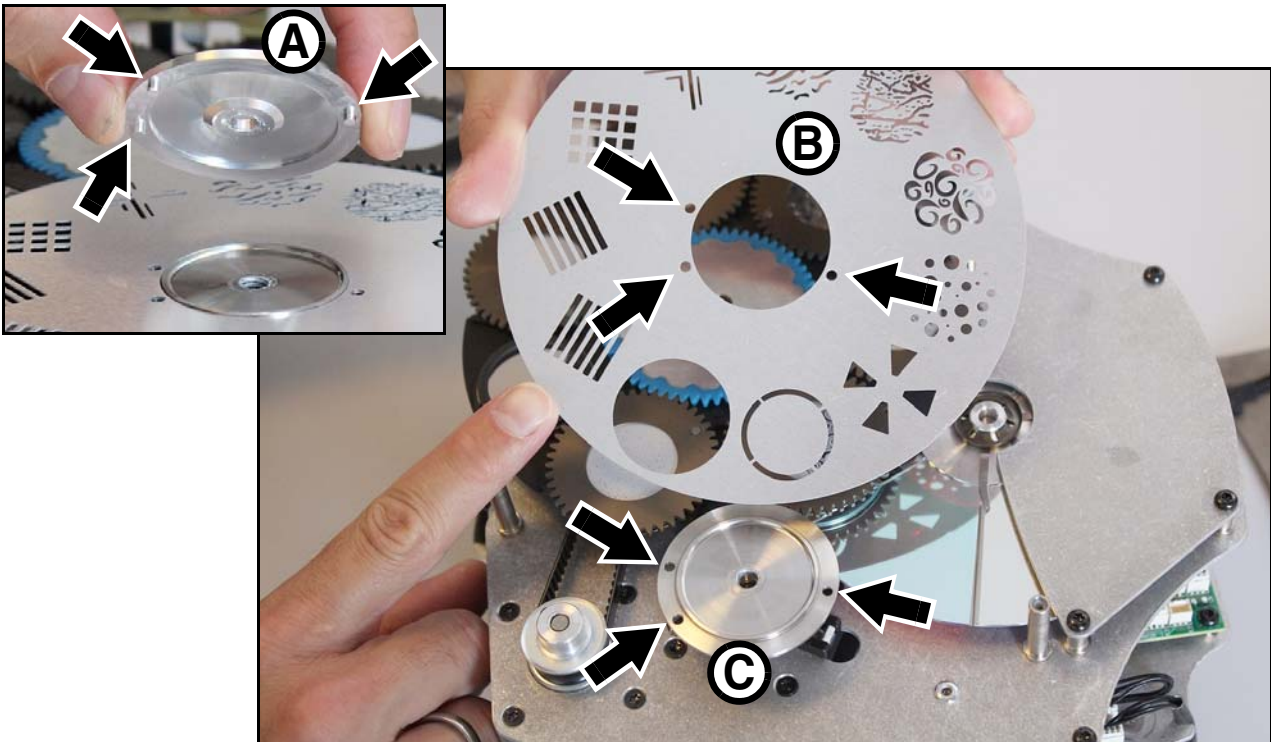

Figure 17: Static gobo wheel alignment
5. See Figure 17. When installing a static gobo wheel, note the positions of the three alignment pins in the alloy retaining disk **A**. The pins must line up with three holes in the gobo wheel **B** and three holes in the gobo wheel mount **C**. The alignment pins ensure that the gobo wheel can only be mounted in the correct position and facing in the correct direction.